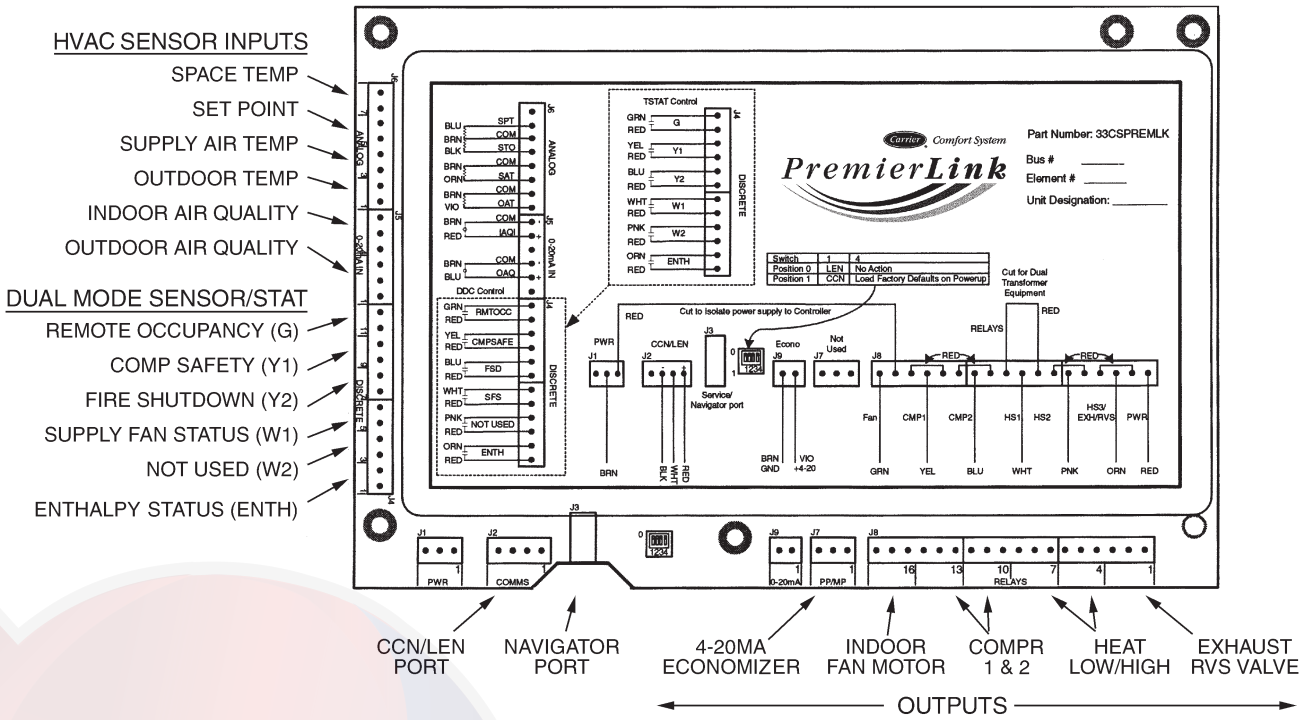

Fig. 71 - PremierLink Controller
The PremierLink Controller (see Fig. 71) is compatible with Carrier Comfort Network® (CCN) devices. This control is designed to allow users the access and ability to change factory-defined settings, thus expanding the function of the standard unit control board. CCN service access tools include System Pilot (TM), Touch Pilot (TM) and Service Tool. (Standard tier display tools Navigator™ and Scrolling Marquee are not suitable for use with latest PremierLink Controller (Version 2.x).)
Refer to Fig. 71 for PremierLink connection locations.